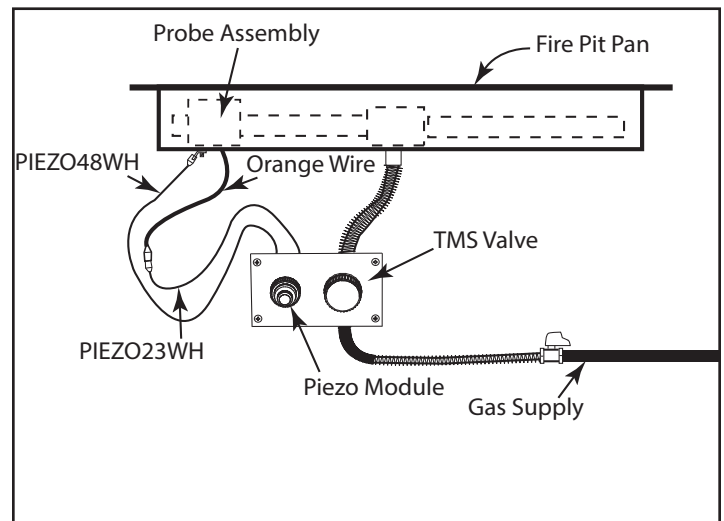

Fig. 10 Shows wiring of PIEZO48WH.
Step 10: When making connections for MSI-BSMTI Kit use the wiring diagram below (Fig. 10) for proper wiring.